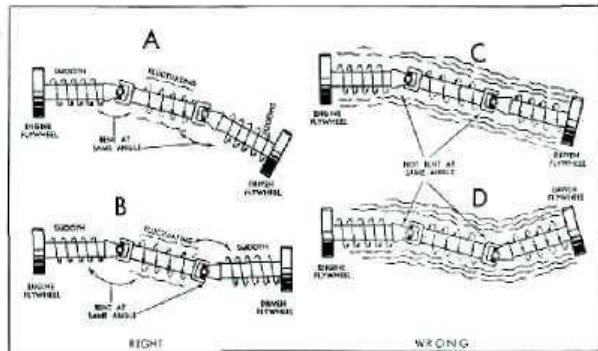

Fig. M.17 — Coupling Shaft Action.
If adjusted in this manner the shaft ends can safely be connected to heavy revolving parts without damage. See Fig. M.17.
- (a) Straight or bent as (A) in Fig. M.17, viewed from above and from the side.
If two additional joints are provided (making a total of four joints) they must be adjusted as A or B in Figure M.17. See Figure M.19.